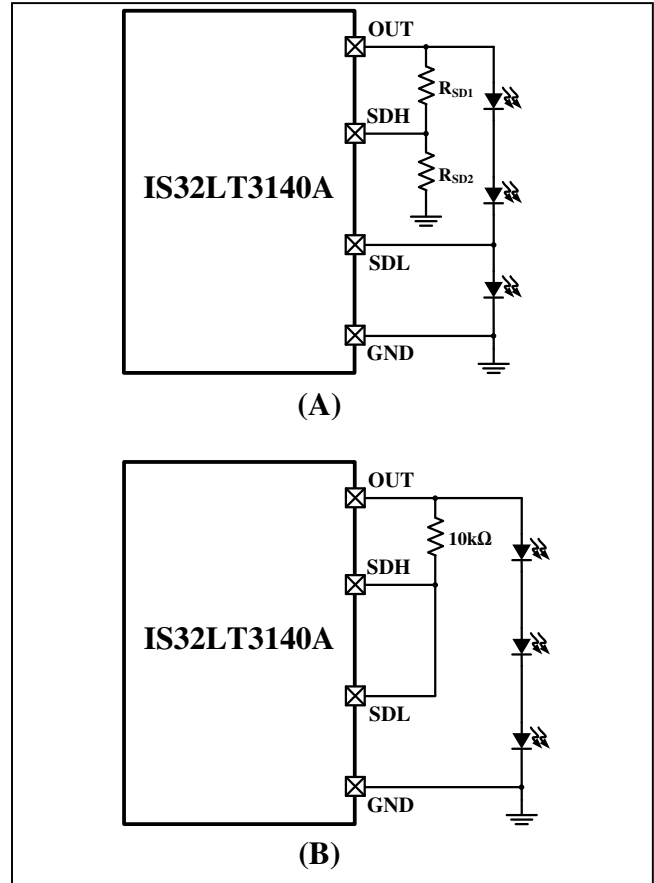

Figure 53 SDH and SDL Connection
In the application, the SDL pin is connected to the anode of the bottom LED and the SDH is connected to OUT pin via a proper resistor divider; Figure 53 (A). The device uses the input voltage of the SDL pin, the forward voltage of the bottom LED, as the reference voltage of the CMP1 to monitor the SDH pin voltage. In case of any upper LED is shorted, the SDH pin voltage  $V_{SDH}$  will drop down. If it drops below  $V_{SDL}$  but greater than  $V_{SSH\_TH}$  and persists for longer than the deglitch time  $t_{FD\_SS}$ , the single LED short protection will be triggered and the FAULTB pin will go low to report the fault condition. The resistor divider ratio can be calculated by:
When the single LED short protection is unused, SDH and SDL pins must be connected together to OUT pin via a 10kΩ resistor. As Figure 53 (B).